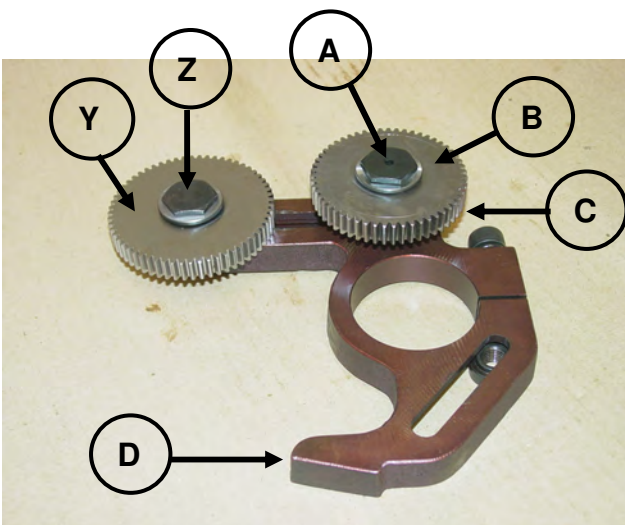

Figure 50-Change Gear Bracket
2. On inch side of change gear bracket "D" (Figure 50), mount "First Gear on Stud" "C" (Figure 50) with spacer between gears. Do not tighten bolt "A" (Figure 50) fully.
3. Mount "Idler Gear" "Y" (Figure 50) but do not mesh with "First Gear on Stud" "C" (Figure 50), or tighten bolt "Z" (Figure 50) fully.